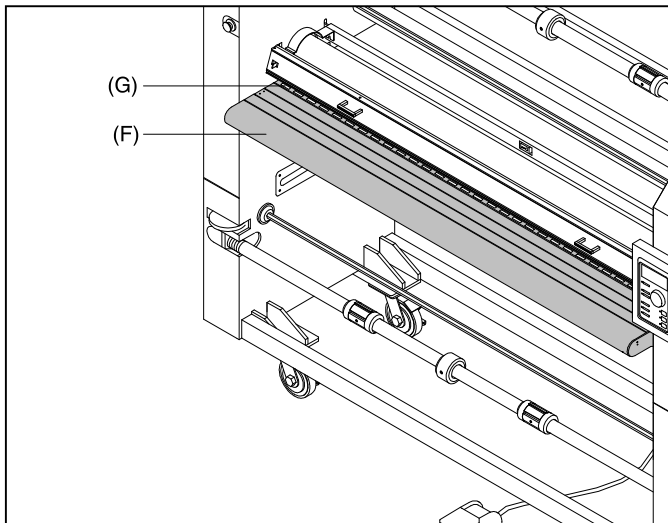

Fig. 12
**F. FEED TABLE:** (Figure 12) The Feed Table is used to position items for lamination. To pivot the feed table, remove the safety shield, lift up on the feed table, pull back, then carefully lower. **The laminator will operate only when the Feed Table is properly installed.**
**G. VACUUM:** (Figure 12) The vacuum is used to assist in keeping the material flat against the feed table as it is introduced into the heat rollers. This feature can be controlled from the control panel.